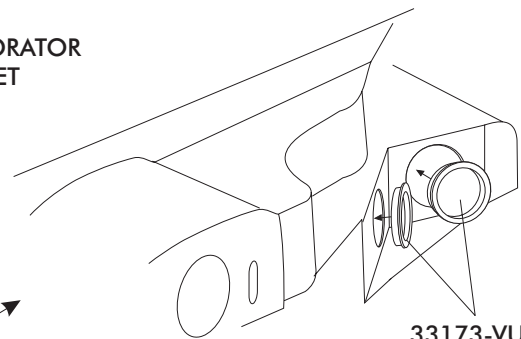

FIGURE 1a
- INSTALL 1 1/2" PLUGS IN FIREWALL AS SHOWN IN FIGURE 1a.